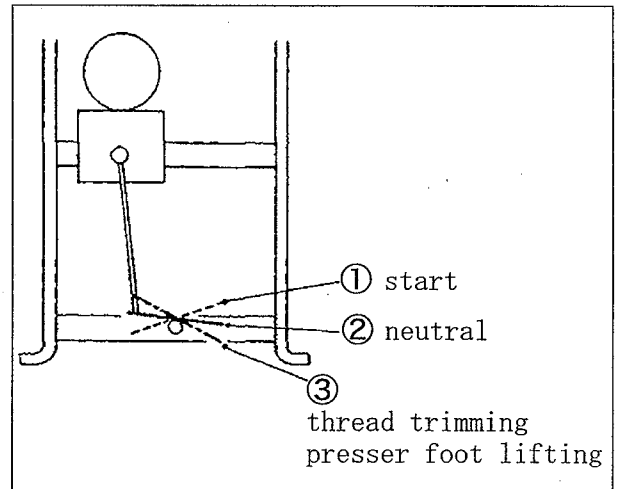

Fig. 1-2
- (1) Heel back the pedal to raise the presser foot.
- (2) Place the material under the presser foot and toe down the pedal. (Fig. 1-2 ①)
- (3) Release the pedal. (Fig. 1-2 ②)
- (4) Heel back the pedal. (Fig. 1-2 ③)
- (5) Release the pedal. (Fig. 1-2 ②)